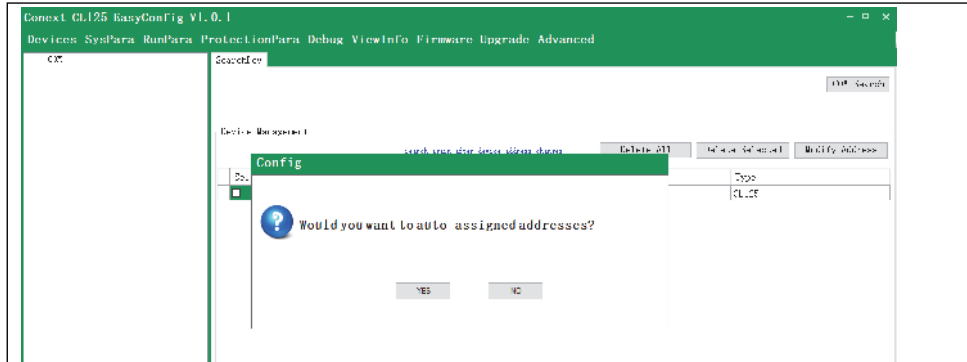

Figure 4-10 Auto Assigned Address Dialog Box
- Click the **No** button (Figure 4-10) to display the Country setting window.